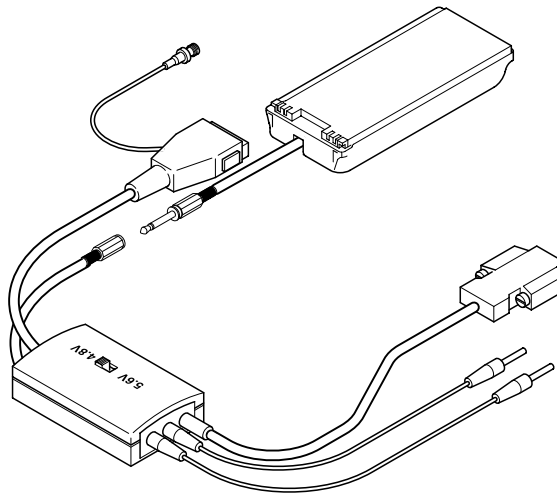

Figure 2: Regulator Unit
3. Regulator Unit part o G5I T 001 figure 2